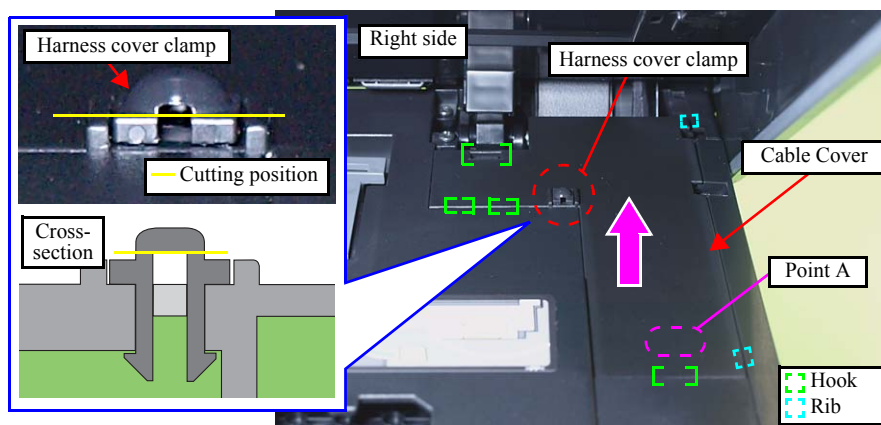

Figure 4-3. Removing the Cable Cover
2. Cut the harness cover clamp with a nipper as shown in Fig. 4-3 and remove the harness cover clamp.
- When installing the Cable Cover, secure it with a new Harness Cover Clamp. (See Fig. 4-3.)